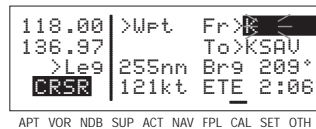

Figure 3-37
4. Turn the right outer knob one click clockwise to move the cursor to the second character position (figure 3-37).